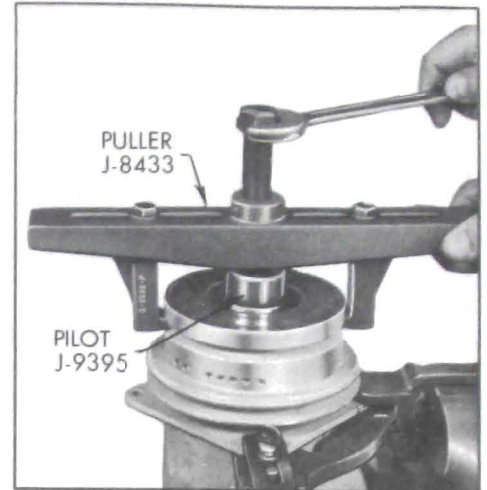

Figure 11-48—Removing Pulley Assembly
3. Place J-9395 puller pilot over compressor shaft and remove pulley assembly, using J-8433 puller. See Figure 11-48.